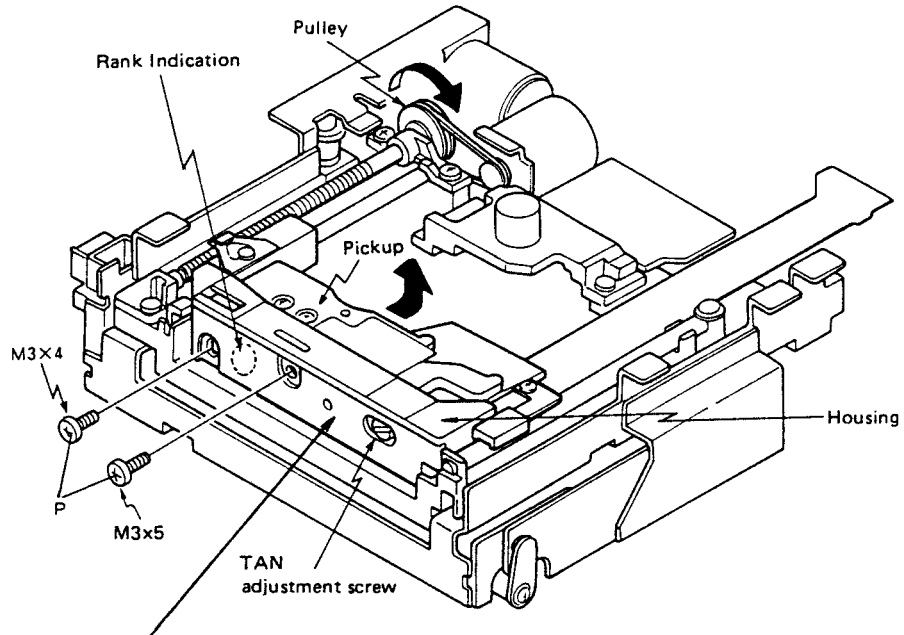

Fig. 30
- Mechanism unit and pickup combinations (Refer to Fig. 30 and 32 concerning ranks.)